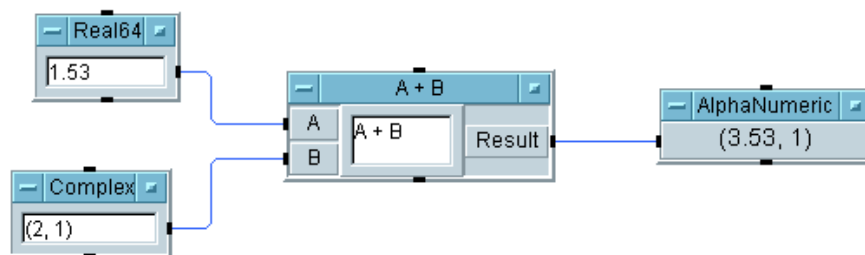

Figure 54 Using Data Types
- 5 Add an AlphaNumeric object by selecting **Display** ⇒ **AlphaNumeric**. Connect the objects as shown in Figure 54. Type in the value 1.53 in the data entry field of the Real64 Constant object and the complex value (2, 1) in the Complex object. Run the program and you should get the result shown in Figure 54.